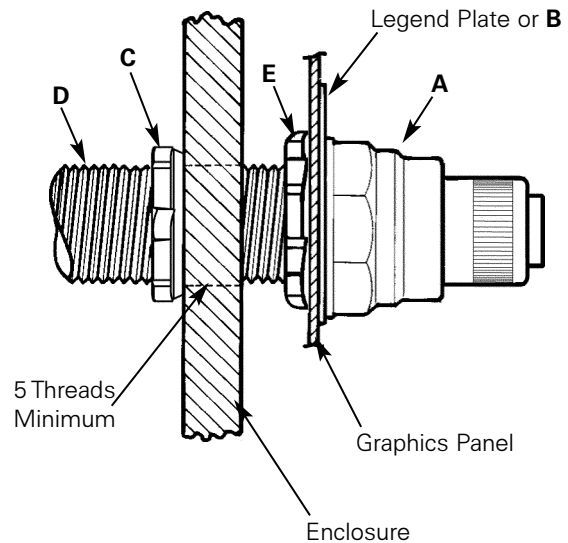

Figure 3
2. When installing assembly **D**, include lock nut **E** and front panel as shown in Figure 3.